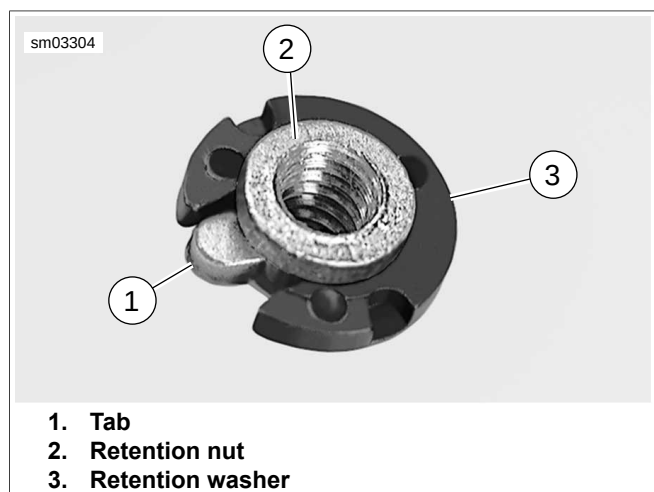

Figure 2-128. Seat Retention Nut
3. See Figure 2-128. With tab (1) on retention nut (2) seated in notch of fender hole, pull up on cable strap to hold nut snug against underside of rear fender.
4. From the side opposite the tab, slide on the retention washer (3) to lock the position of the retention nut.